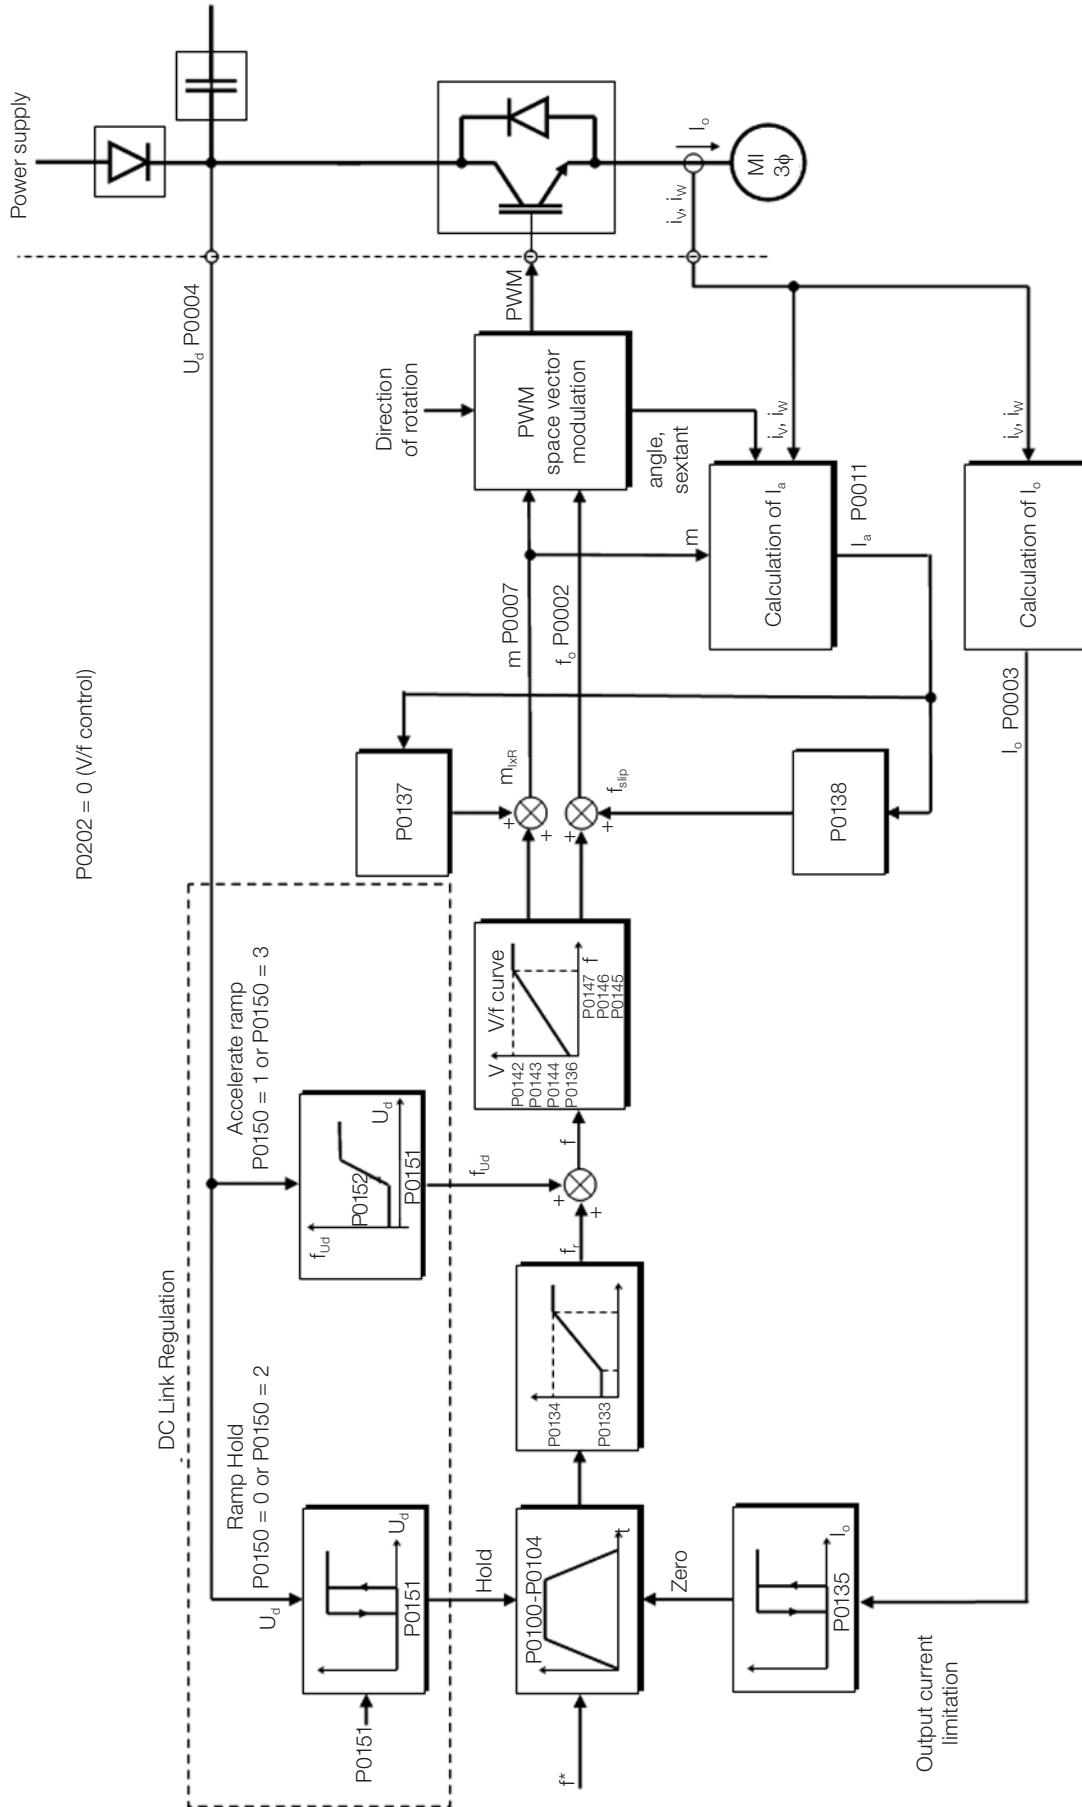
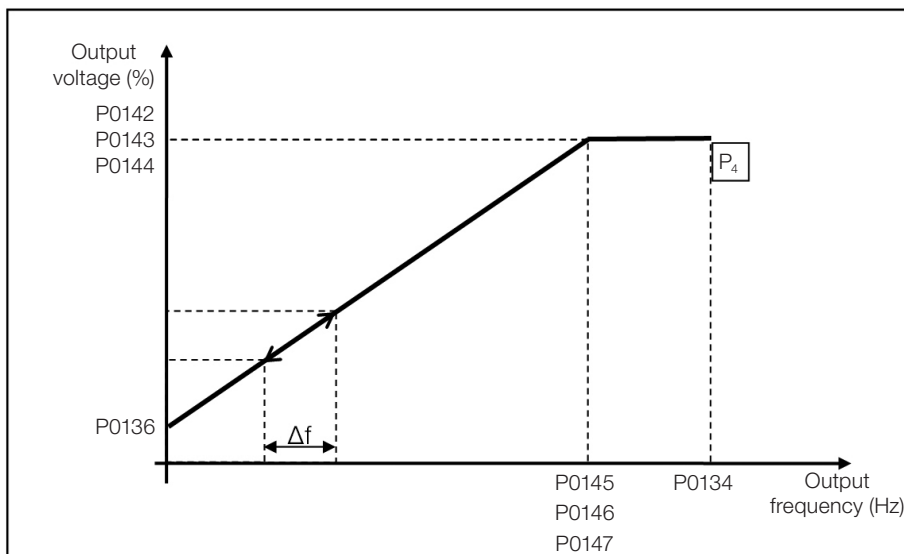

Figure 9.1: Block diagram of V/f scale control
Figure 9.5: Slip compensation in an operation point of the standard V/f curve
According to the block diagram of Figure 9.1 on page 9-2, the speed reference f^* is limited by P0133 and P0134 and applied to the input of "V/f CURVE" block, where the output voltage amplitude and frequency imposed to the motor are obtained. For further details on the speed reference, refer to Chapter 7 LOGICAL COMMAND AND SPEED REFERENCE on page 7-1.
The automatic torque boost compensates the voltage drop in the stator resistance because of active current. Look at Figure 9.1 on page 9-2, where variable m_{IxR} corresponds to the automatic torque boost action on the modulation index defined by V/f curve.
Parameter P0138 is used in the motor slip compensation function, when set for positive values. In this case, it compensates the speed drop due to application of the load on the shaft and, consequently, the slip. In this way, it increments the output frequency (Δf) considering the increase of the motor active current as shown in Figure 9.5 on page 9-6. In Figure 9.1 on page 9-2 this compensation is represented in the variable f_{slip} .
The setting in P0138 allows regulating with good accuracy the slip compensation by moving the operation point on the V/f curve, as shown in Figure 9.5 on page 9-6. Once P0138 is set, the inverter is able to keep the speed constant even with load variations.
- Actuation: when the DC Link voltage reaches the level set in P0151, a command is set to the "ramp" block, which inhibits the motor speed variation according to Figure 9.1 on page 9-2 and Figure 10.1 on page 10-2.